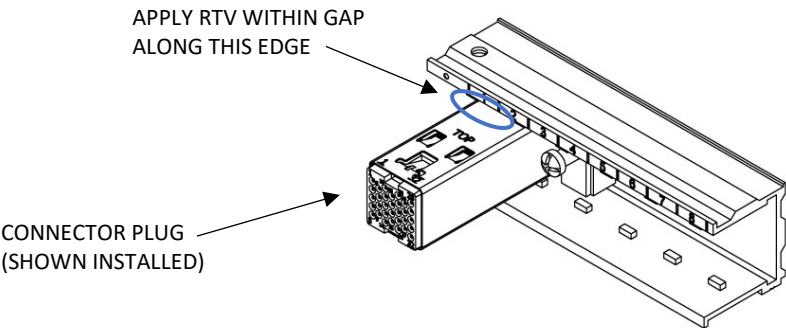

Figure M1-4
Step 1: Select an open position in the M81814 rail. Orient the top of the module housing to the top of the rail (see Figure M1-4). Slide the module against the stop and trap it with the sliding keeper. Tighten the screw in the keeper to restrain the module body (see Figure M1-5).